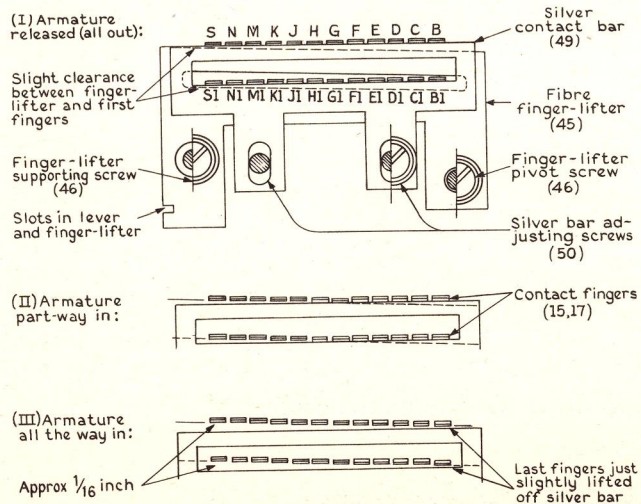

Fig. 6. Adjustment of contact bar
Insulate the contact fingers (15, 17) from the contact bar (49) with a piece of paper, first insulating only the fingers S and S1 (see Fig. 6). Measure the resistance between terminals A and E of the AN-connector (68). This should be 0.12 ohm as shown for step one in the table below. For the second step insulate fingers S, S1, N, and N1 and check in the same manner. For each succeeding step insulate one more finger in each row until all fingers are insulated for step 12. The cumulative resistances should check with the values listed in the table. The resistance of the first eleven steps may vary ± 20 per cent provided the total resistance, step 12, checks within ± 12 per cent.
1. See that neither the finger-lifter (45) nor the lever rests on the support (9) of the contact bar before or at the end of travel.
Check the adjustment of the silver contact bar (49). (See Fig. 6.) In correct operation, the first contact finger (lettered S or S1) should start lifting from the bar almost as soon as the armature (41) starts moving in. The rest of the fingers (N, M, K, etc.) should pick up in succession until, at the end of armature travel, the last finger B or B1 should be just slightly lifted from the contact bar (49). When the armature (41) is returned to its normal position, all the fingers should again make contact with the contact bar. If necessary, adjustments may be made by slightly loosening the screws (46) holding the finger-lifter (45) and moving the finger-lifter up or down using a screwdriver placed in the slot provided on the outer edge. Additional adjustment may be made by changing the position of the silver contact bar (49) after loosening its supporting screws (50). If some fingers and contact bar should be burned, replace the burned fingers and dress up the silver in a filing fixture, being sure to maintain the spacing between the two contact edges.
Referring to Fig. 6, adjust the contact bar. When the armature is released (I), all contact fingers should touch the contact bar. The first finger (lettered S or S1 in Fig. 6 and farthest from the base) should begin lifting almost as soon as the armature starts moving in. The rest of the fingers (N, M, K, etc.) should pick up in succession (II), until the end of armature travel (III), when the last finger (B or B1) should be just slightly lifted from the contact bar. The corresponding fingers in both top and bottom rows should move approximately in unison. Note that a terminal (49A) is provided under the right-hand screw supporting the contact bar. This terminal should be in a position which does not interfere with the proper operation of the contact fingers.